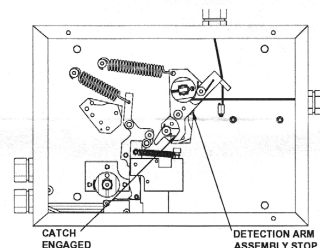

Figure 8.
7. Using a ratchet (3/8" drive) rotate the Fusible Link Ratchet clockwise until all slack has been removed from the cable and the Detection Arm hits its stop, fully engaging the Catch. The cable should not wrap more than four (4) times around the Detection Spool. Remove ratchet and check detector positions to ensure that they are still in their appropriate positions and all excess slack has been removed. See Figure 8.